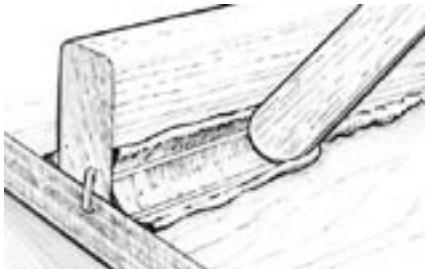

Figure 9-12 Shape and smooth the fillet with a rounded tool.
2. Shape and smooth the squeezed-out thickened epoxy into a fillet by drawing a rounded filleting tool - a mixing stick is often ideal - along the joint, dragging excess material ahead of the tool and leaving a smooth cove-shaped fillet bordered on each side by a clean margin. Remove filleting blend outside the margin and use the excess material to refill any voids (*Figure 9-12*). Smooth the fillet until satisfied with the appearance. An 804 Mixing Stick will produce a fillet with about a 10mm radius. For larger fillets, a WEST SYSTEM 808 Plastic Squeegee is recommended, cut to shape or bent to the desired radius.